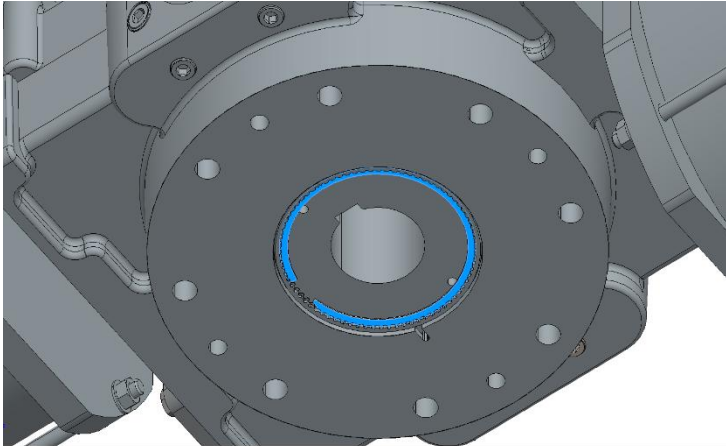

Figure 12 - Retaining Ring
- Remove the retaining ring Highlighted in **Figure 12 - Retaining Ring** using a flat screwdriver.